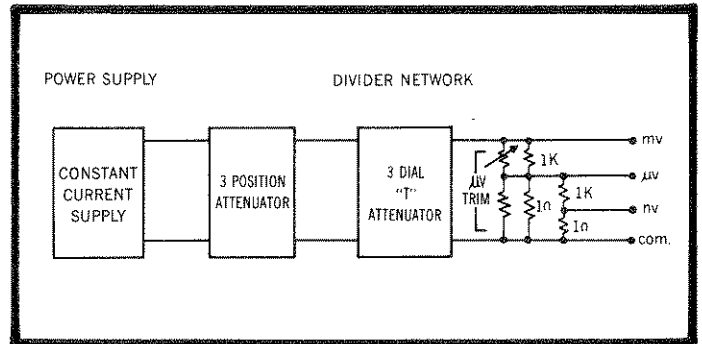

FIGURE 4. Model 260 Block Diagram.
a. The Keithley Model 260 Nanovolt Source is basically a high stability power supply coupled with a precision divider network (Figure 4). The power supply is used as a zener referenced constant current source which provides approximately 11 milliamperes. The current is used to develop accurate voltage drops across the divider network.